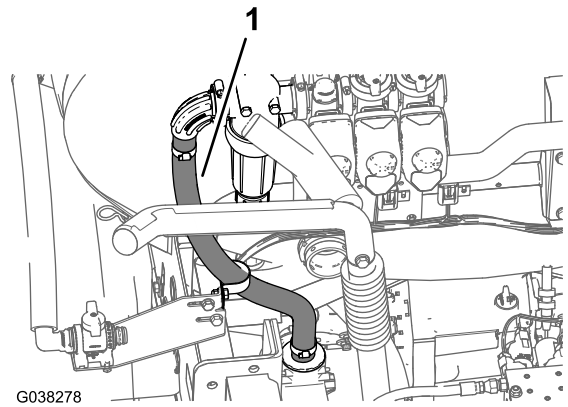

Figure 71
- Route the sprayer supply hose down and toward the T-fitting located forward of the pressure-relief valve as shown in Figure 71.